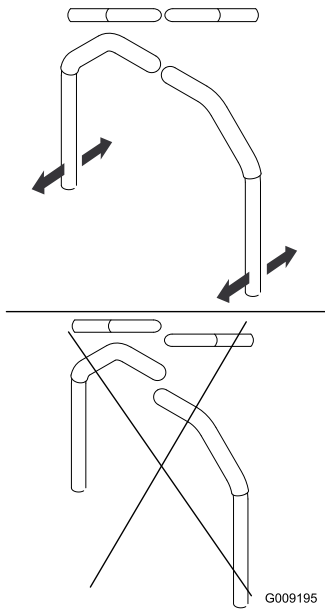

Figure 97
4. Align the levers in the front-to-rear position by bringing the levers together to the NEUTRAL position, and slide them until they are aligned, then tighten the bolts (Figure 97).